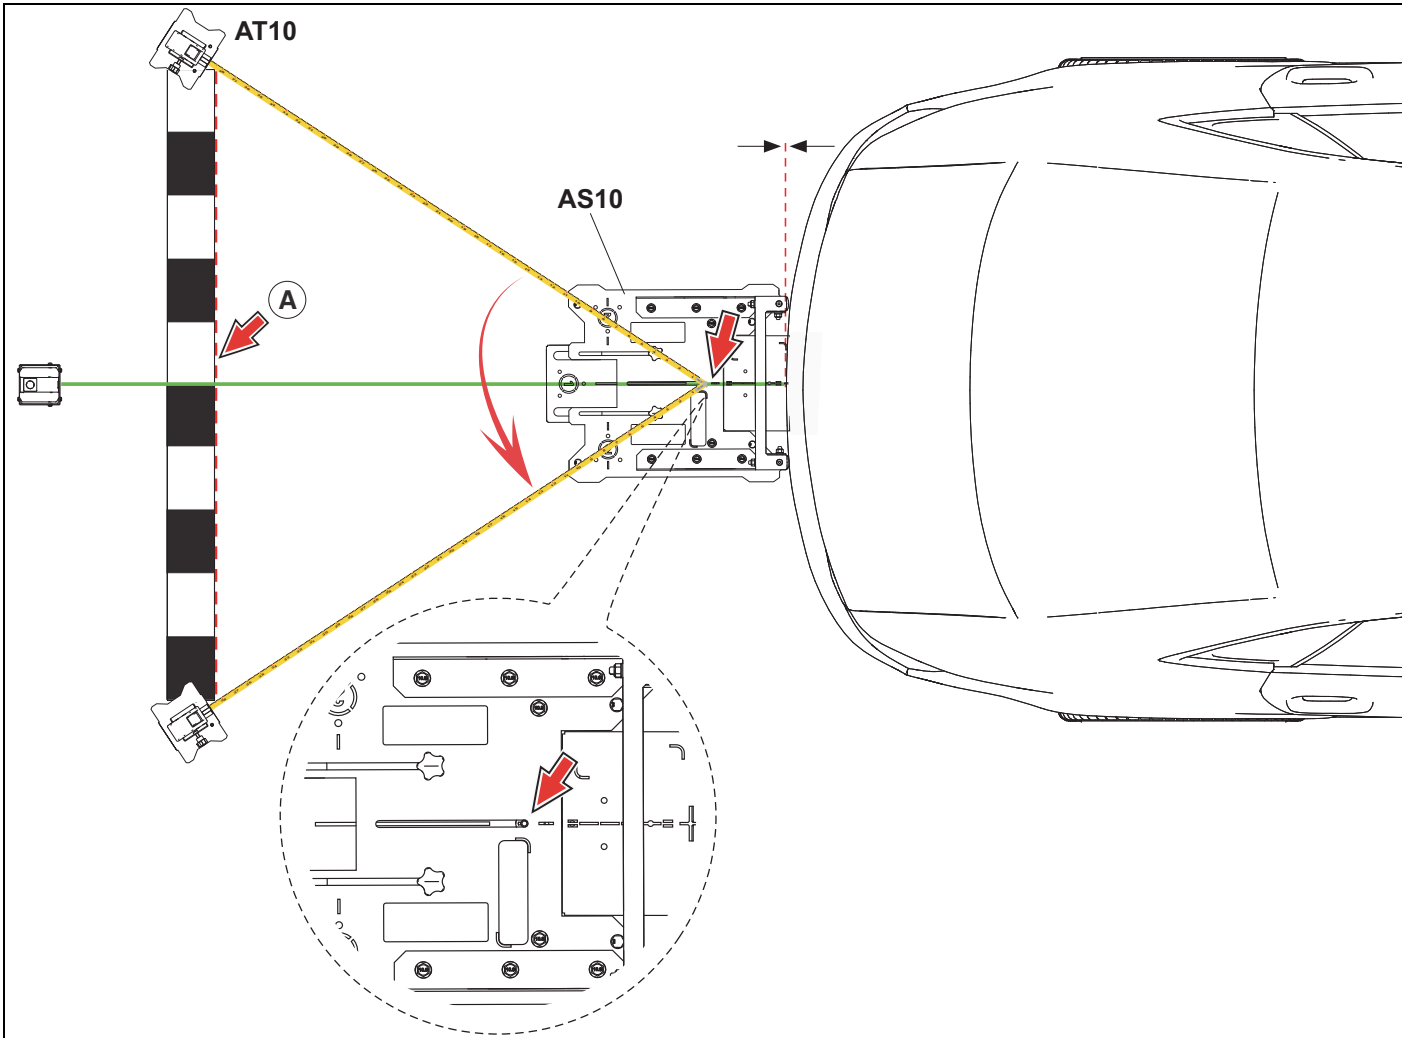

Figure 5-11
6. To ensure the targets are perpendicular to the vehicle centerline, use the tape rule to set the outer forward edge of the targets at equal distance from the center pin of the AS10 fixture (Figure 5-11). Use of AT10 stand is optional.
7. Measure from AS10 center pin, to left/right forward edge of targets and move targets (as one) to achieve equal distance on both sides while maintaining center alignment and distance "A" (Figure 5-11).